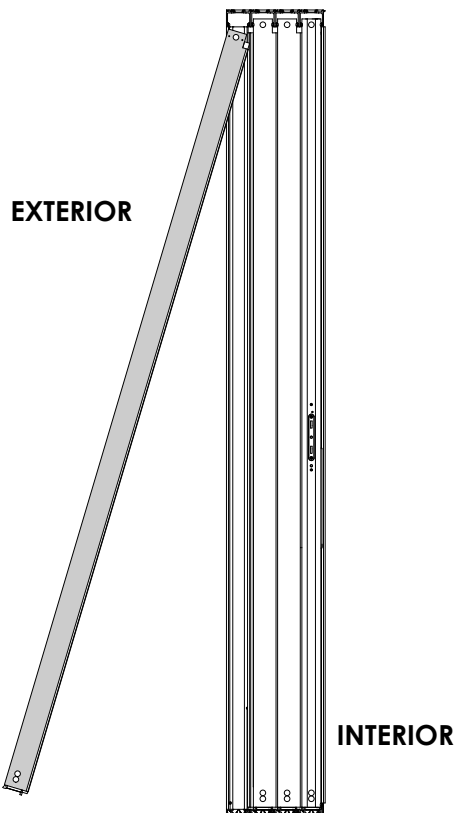

FIG 50
- From the exterior of the building, with the Glazing Stops on the panel to the exterior and with a portion of the panel overlapping the last panel installed, lean the top of the panel into the Fixed Panel Track at the head of the frame and then lower it onto the corresponding track in the sill. **[FIG 50]**